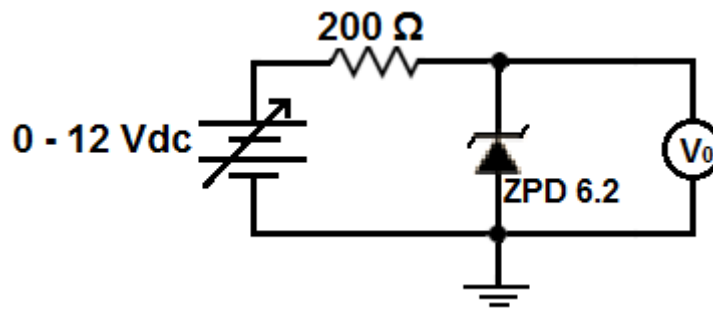

Figure 5.2: Zener diode circuit. (without load).
1. Connect the circuit as shown in the figure 5.2.